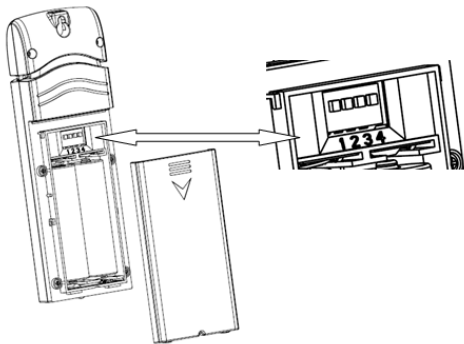

Figure 2: Battery installation
1. Remove the battery door on the back of the transmitter by taking off the cover, as shown in Figure 2